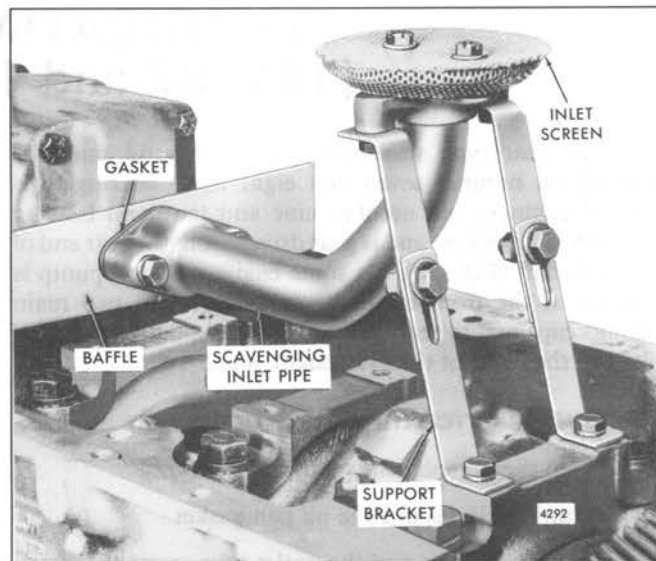

Fig. 9 - Scavenging Inlet Pipe and Screen Mounting
6. Place a new gasket between the scavenging pump body and baffle plate and between the baffle plate and the scavenging oil pump inlet pipe. Secure the pipe and baffle with two bolts and lock washers to the scavenging pump body (Fig. 9).